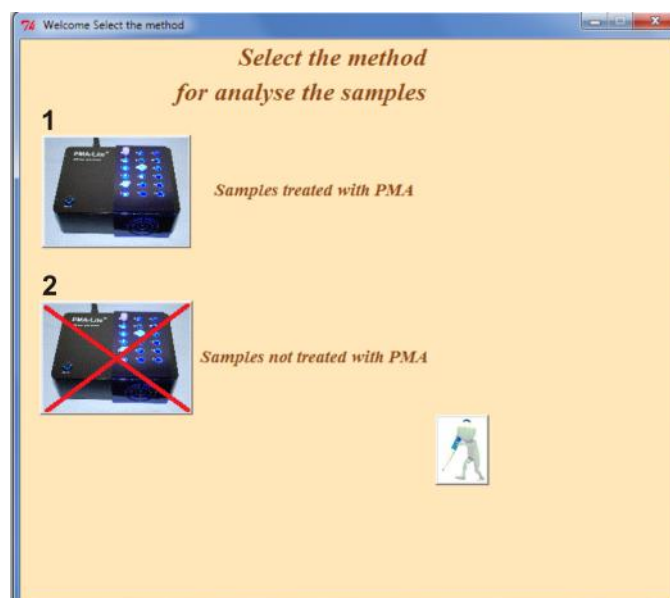

Figure 3: The third step: Select the method to analyse the samples
3. The third step: Select the method to analyse the samples. Two icons are present in the window to select the method of analysis (Figure 3).
If you have finished, you close the interface else click on the Start icon to return to the third step: select the analysis method (Figure 3).